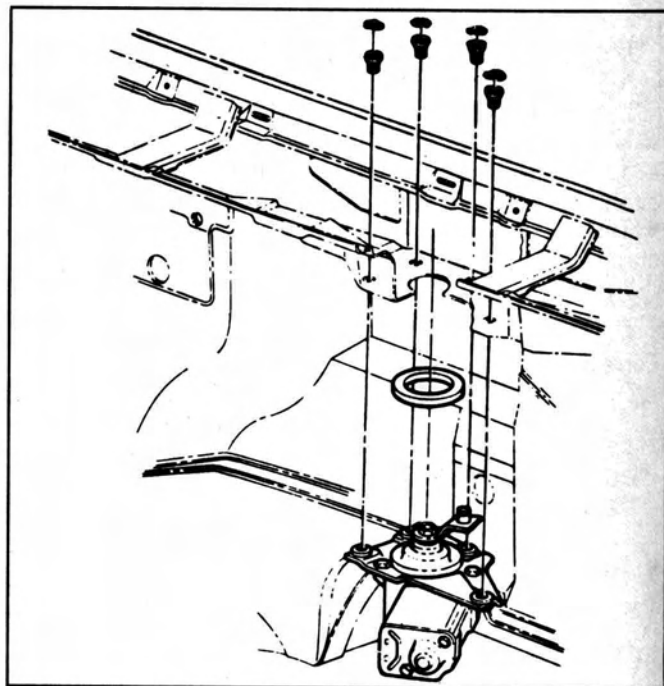

Fig. 127—Windshield Wiper Mounting
The single-speed wiper installation shown in Figure 127 is typical of both wipers.
6. Remove four (4) screws and lock washer assemblies, Figure 127, securing motor assembly